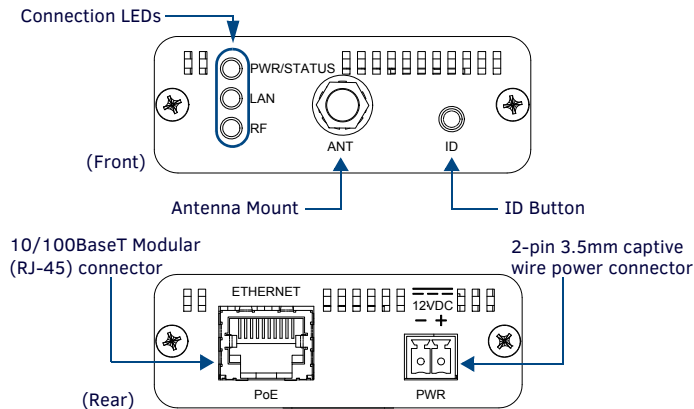

FIG. 1 NXR-ZGW-PRO (FRONT AND REAR)
1. Confirm that the NXR-ZGW-PRO is receiving power by checking the PWR LED (shown in FIG. 1).